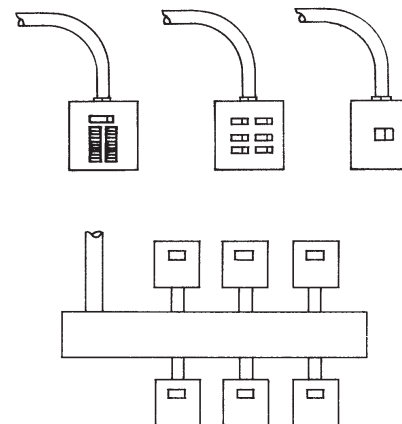

Figure 10-19. Permissible service disconnects.
Section 230.71(A) of the *NEC* requires that disconnect means or service entrance conductors cannot exceed six switches either in a single enclosure or a group of separate enclosures. Several permissible arrangements are shown in **Figure 10-19**.